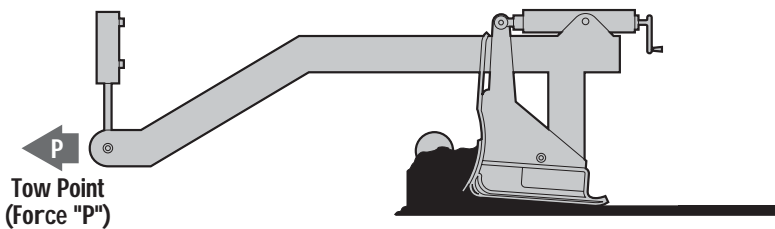

Figure 2-8. Tow Point Force ("P")
The tow point force (P) is the resistance to forward travel (Figure 2-8).